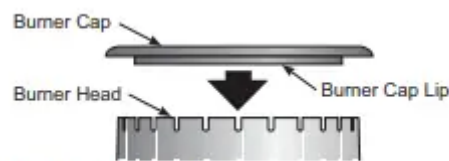

Figure 18: Burner Cap
1. Remove the burner cap from the burner head (see Figure 18). Clean the cap with hot soapy water and dry thoroughly